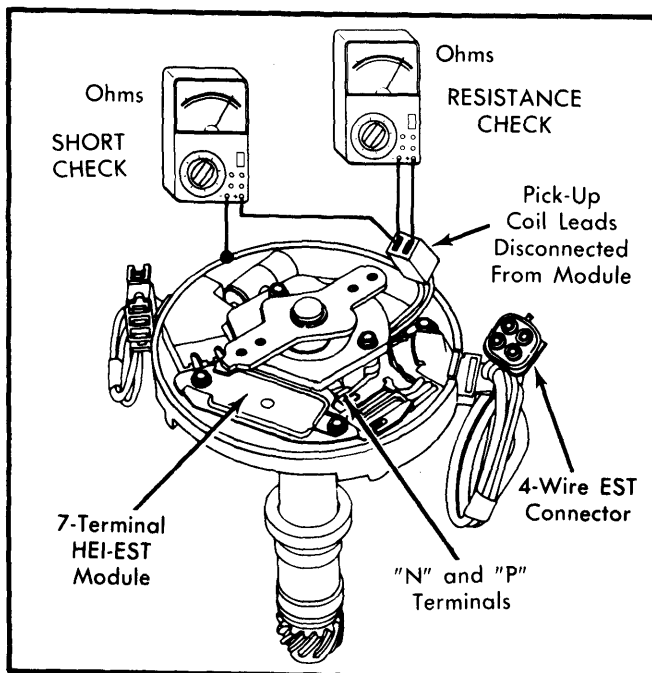

Fig. 6 Distributor Pick-Up Coil Short and Resistance Checks (Integral Coil)
1) Disconnect pick-up coil leads from HEI-EST module "N" and "P" terminals (usually a green and a white wire). To check for shorted pick-up coil, set ohmmeter to middle range. Connect one lead to either pick-up coil lead and other lead to distributor housing. See Figs. 6 and 7. Reading should be infinite. If not, replace pick-up coil.
Figs. 6 and 7. Resistance should read a constant unchanging value between 500 and 1500 ohms. If not, replace pick-up coil.